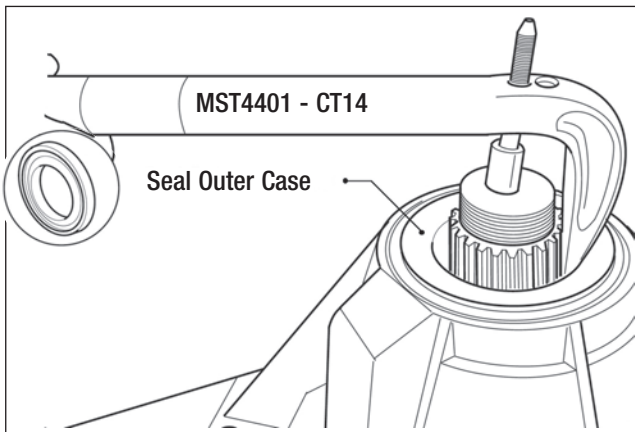

Fig. 4.6
9. Remove seal outer case with use of service tool MST4401 - CT14. Discard seal and replace with new for rebuild (Fig. 4.6)